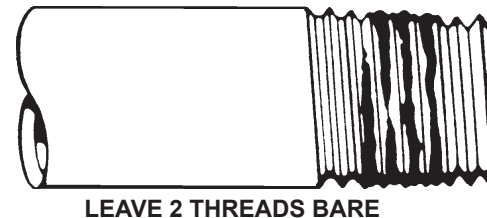

Figure 5. Pipe Compound Application
- Apply a good quality pipe compound to all male threads as shown in Figure 5 prior to assembly. If LP gas is the fuel, ensure that pipe compound is resistant to LP gas. Do not use Teflon™ tape.